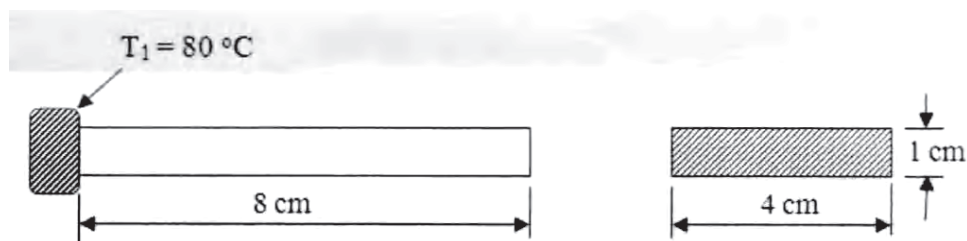

Figure 5
- b) Determine the temperature distribution in one dimensional fin, having rectangular cross-section as shown in Figure 5 and is 8 cm long, 4 cm wide and 1 cm thick. Assume that convection heat loss occurs from the end of the fin. Take  $h = 3 \text{ W/cm } ^{\circ}\text{C}$ ,  $h = 0.1 \text{ W/cm}^2 \text{ } ^{\circ}\text{C}$  and  $T_{\infty} = 20^{\circ}\text{C}$ . Model fin using two elements. [10]